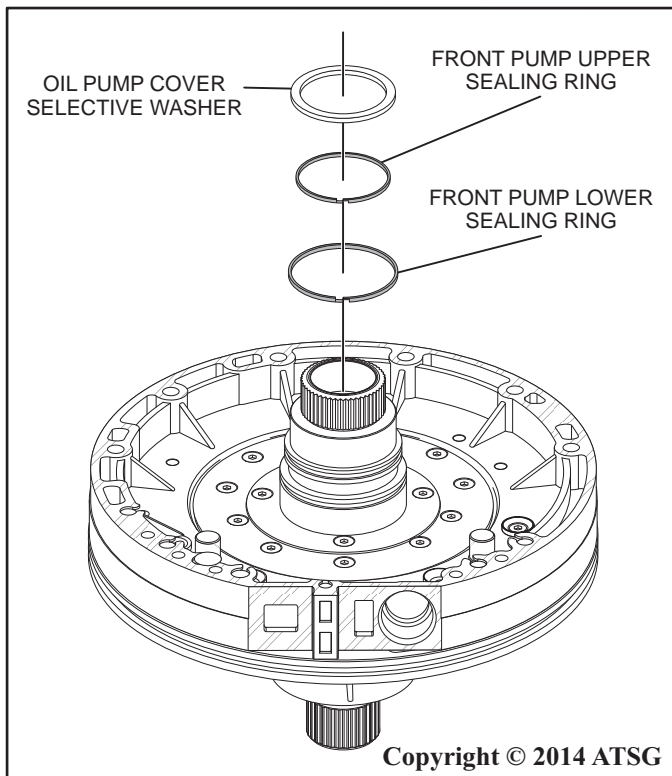

Figure 61
4. Remove the oil pump cover selective washer as shown in Figure 61 and set aside.
5. Remove the front pump upper and lower sealing rings as shown in Figure 61 and discard the sealing rings.